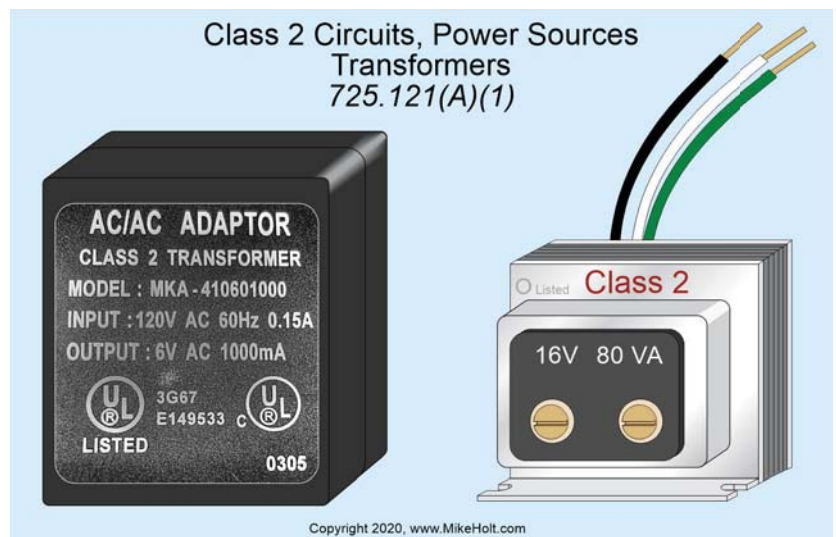

Fig. 1. Transformers used as a Class 2 power source must be listed.
- (1) A listed Class 2 transformer (**Fig. 1**).
- (2) A listed Class 2 power supply.
- (3) Equipment listed as a Class 2 power source.